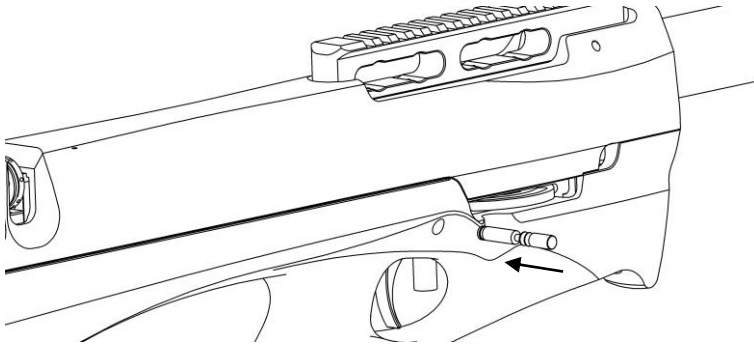

Fig. 3 – Installing the safety.
- Cock the bolt and install the safety (fig. 3).